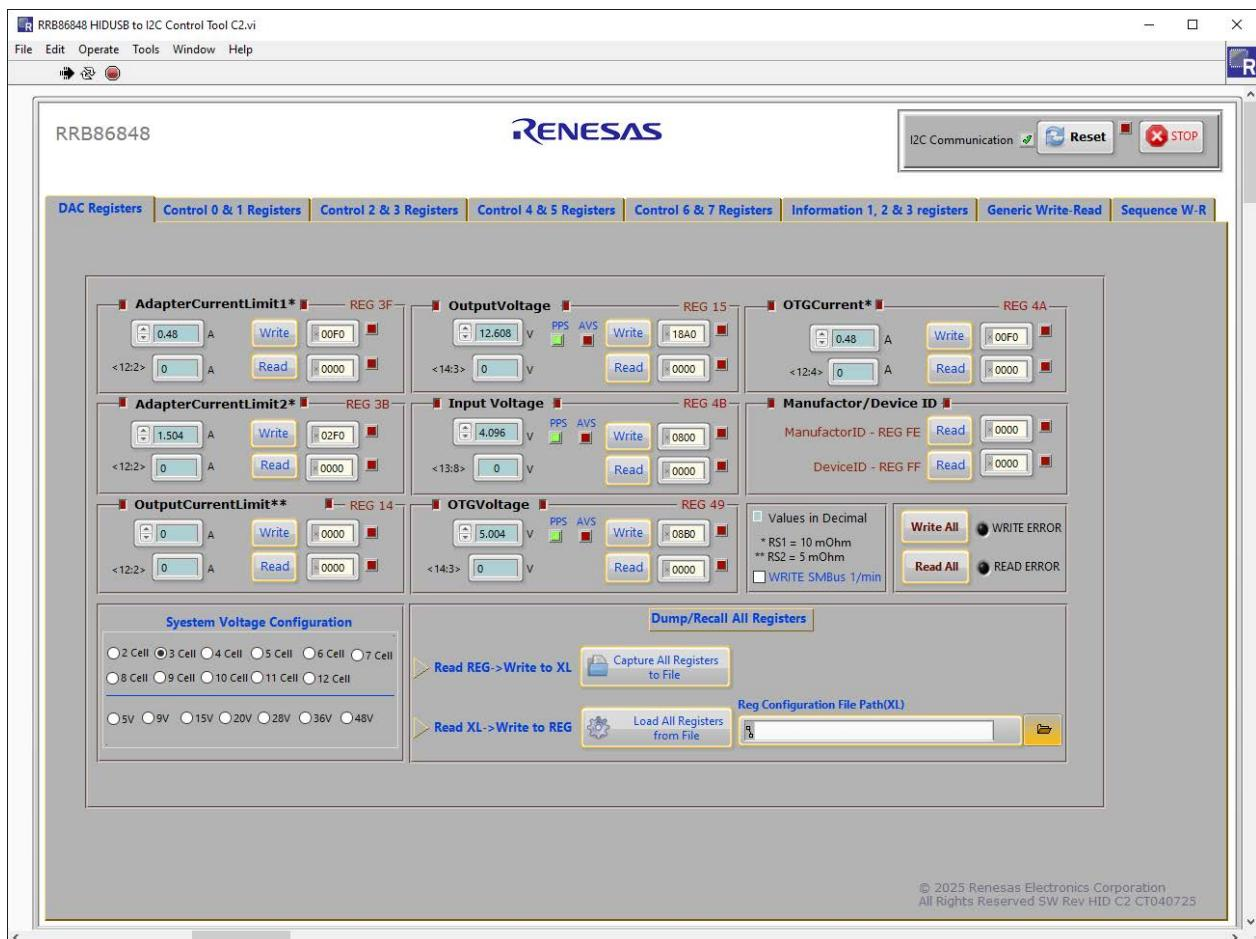

Figure 2. GUI Snapshot
The output voltage and adapter current limit default values can be configured through SW3 to select a proper PROG R. The PROG Pin Programming Options table in the *RRB86848 Datasheet* shows the programming options. After the Program pin is read, the default values of the output voltage and the adapter current limit values are set accordingly. These values can also be changed through the SMBus control registers in the Renesas GUI, shown in Figure 2.
3. Turn on the power supply. Open the RRB86848 GUI (shown in Figure 2).